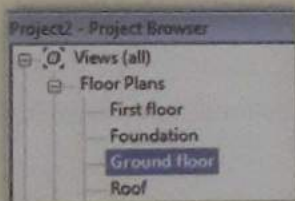

Figure 27: Ground Floor Plan.
2. Change to Ground floor plan (Figure 27).